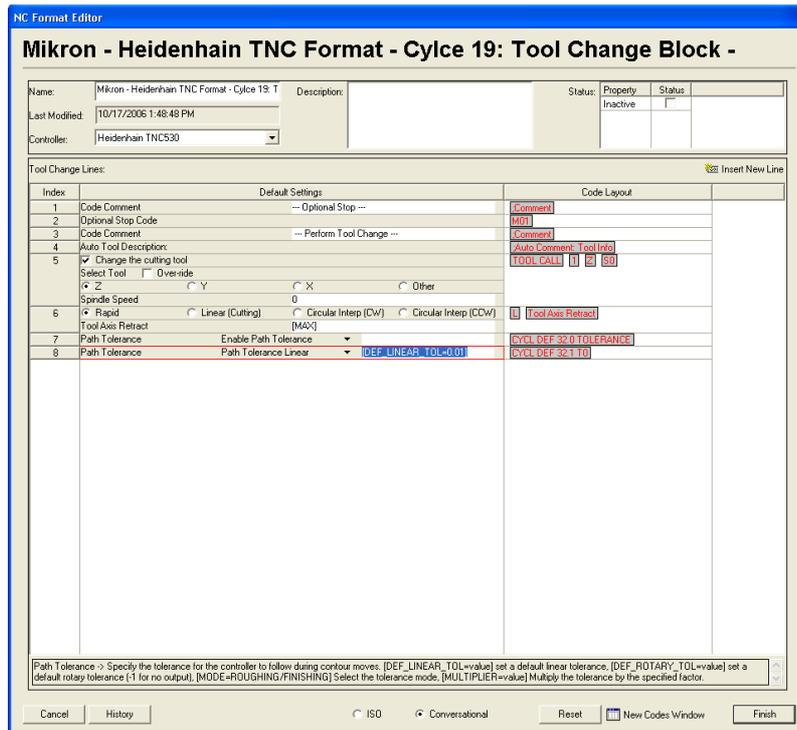

Figure 2: The Path Tolerance Linear code
- (4) In the editor, select the **Path Tolerance Linear** code (See Figure 2)
- (5) Set its text to **[DEF_LINEAR_TOL=0.01]** or whatever value you want to use as the default
- (6) Click **Finish** to commit your changes